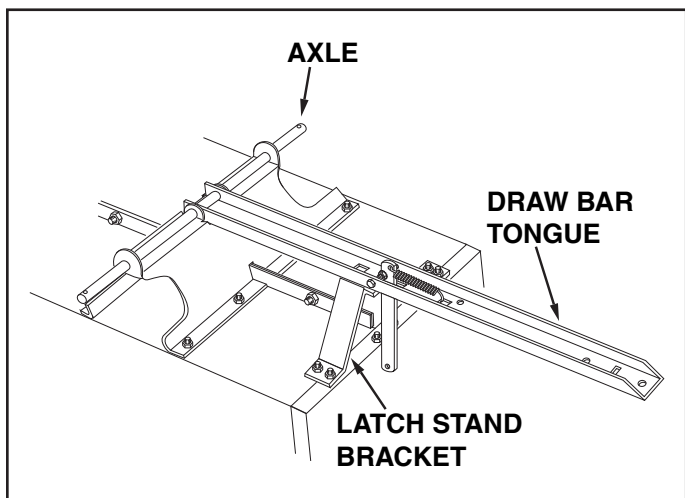
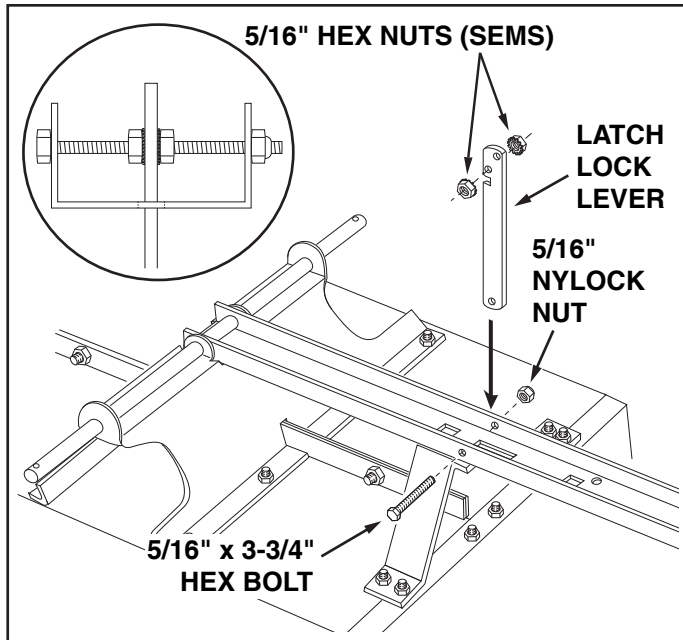

FIGURE 10
FIGURE 11
14. To prevent accidental tipping during the following assembly procedures, lower the cart to rest upside down on its top flanges, so that the wheel support is facing up. See figure 10.
15. Lay the drawbar tongue (open side facing up) onto the Wheel Support and the Latch Stand Bracket. Assemble the axle through the wheel support and the tongue. See figure 10.
16. Place the latch lock lever through the slot in the draw bar tongue as shown in figure 10. Assemble the 5/16" x 3-3/4" hex bolt through the tongue, the lever and two 5/16" hex nuts (SEMS) (one on each side of the lever). Assemble the 5/16" hex lock nut onto the end of the bolt and **tighten** so that the bolt can still rotate freely. **Tighten** the two 5/16" nylock nuts against the sides of the latch lock lever so that the lever is centered in the slot. See figure 11.